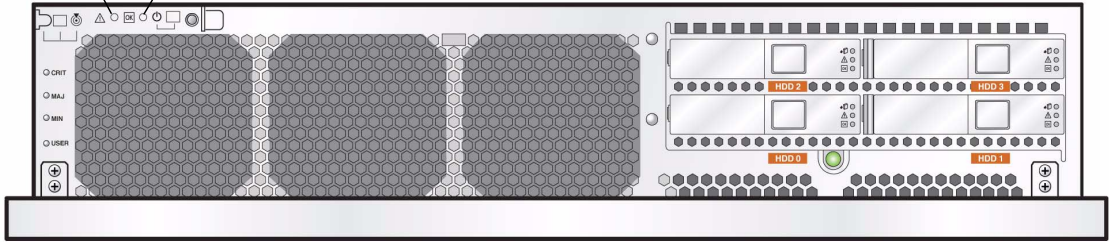

FIGURE 2-1 Server Front Panel With Bezel Open
In standby power mode, the Power/OK LED on the front panel flashes, indicating that the service processor is working and the system is ready to be fully powered on to main power mode. See FIGURE 2-1 for the LED location.
2. **Use a ballpoint pen or other stylus to press and release the recessed Power button on the server front panel. See FIGURE 2-1 for the Power button location.**
FIGURE 2-1 shows the LED location on the server front panel with the bezel open.